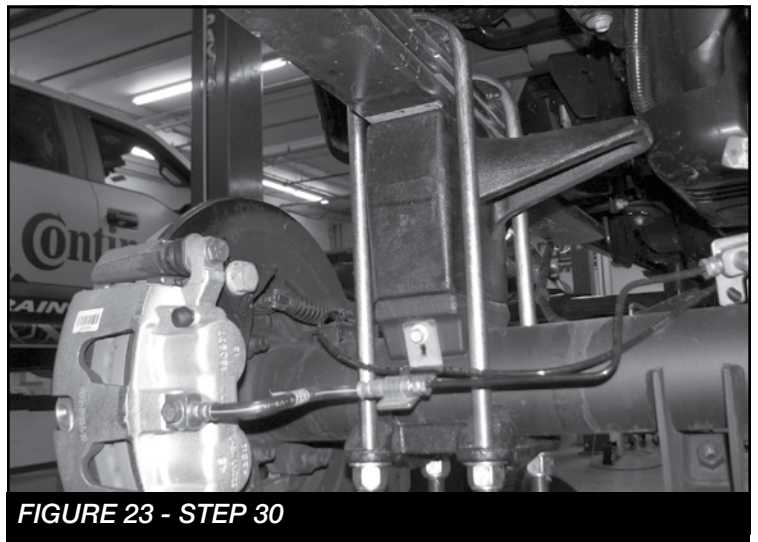

FIGURE 23 - STEP 30
30. Locate and install the rear lift blocks FTBK54D & P. The factory block will need to be removed. The short end of the blocks should face to the front of the vehicle. Using the supplied u-bolts, nuts and washers align axle, lift blocks and springs and torque to U-Bolts to 170 ft-lbs. **SEE FIGURE 23**